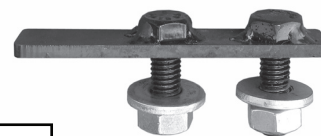

Fig 7
Line up the holes in the Bracket with the holes in the end of the frame channel for the tow hook, (Fig 6). Select (1) 12mm Double Bolt Plate, (Fig 7). Insert the Bolt Plate into the end of the frame, through the (2) holes in the side of the frame and out through the Bracket, (Figs 8-9). Secure the Bracket to the Bolt Plate with (2) 12mm Flat Washers and (2) 12mm Nylon Lock Nuts. Snug but do not fully tighten hardware at this time.